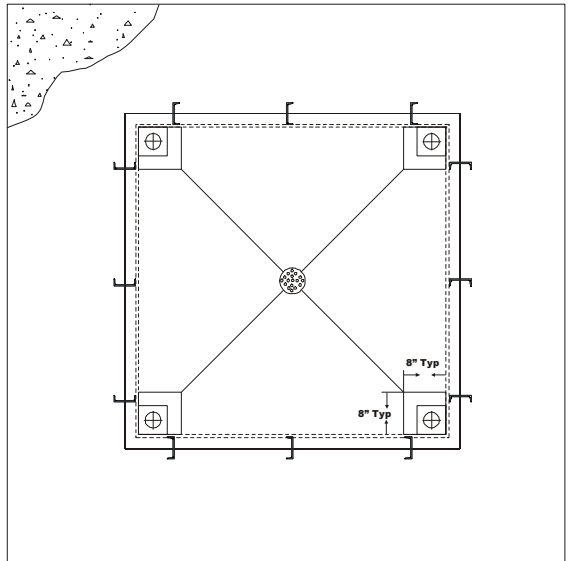

FIG. 22 PIT FRAME DIMENSIONS
Step 2. Mark out the position of the hole to be made. The hole **MUST** be a minimum of 12" larger than the pit frame on all sides. (See Fig. 22)